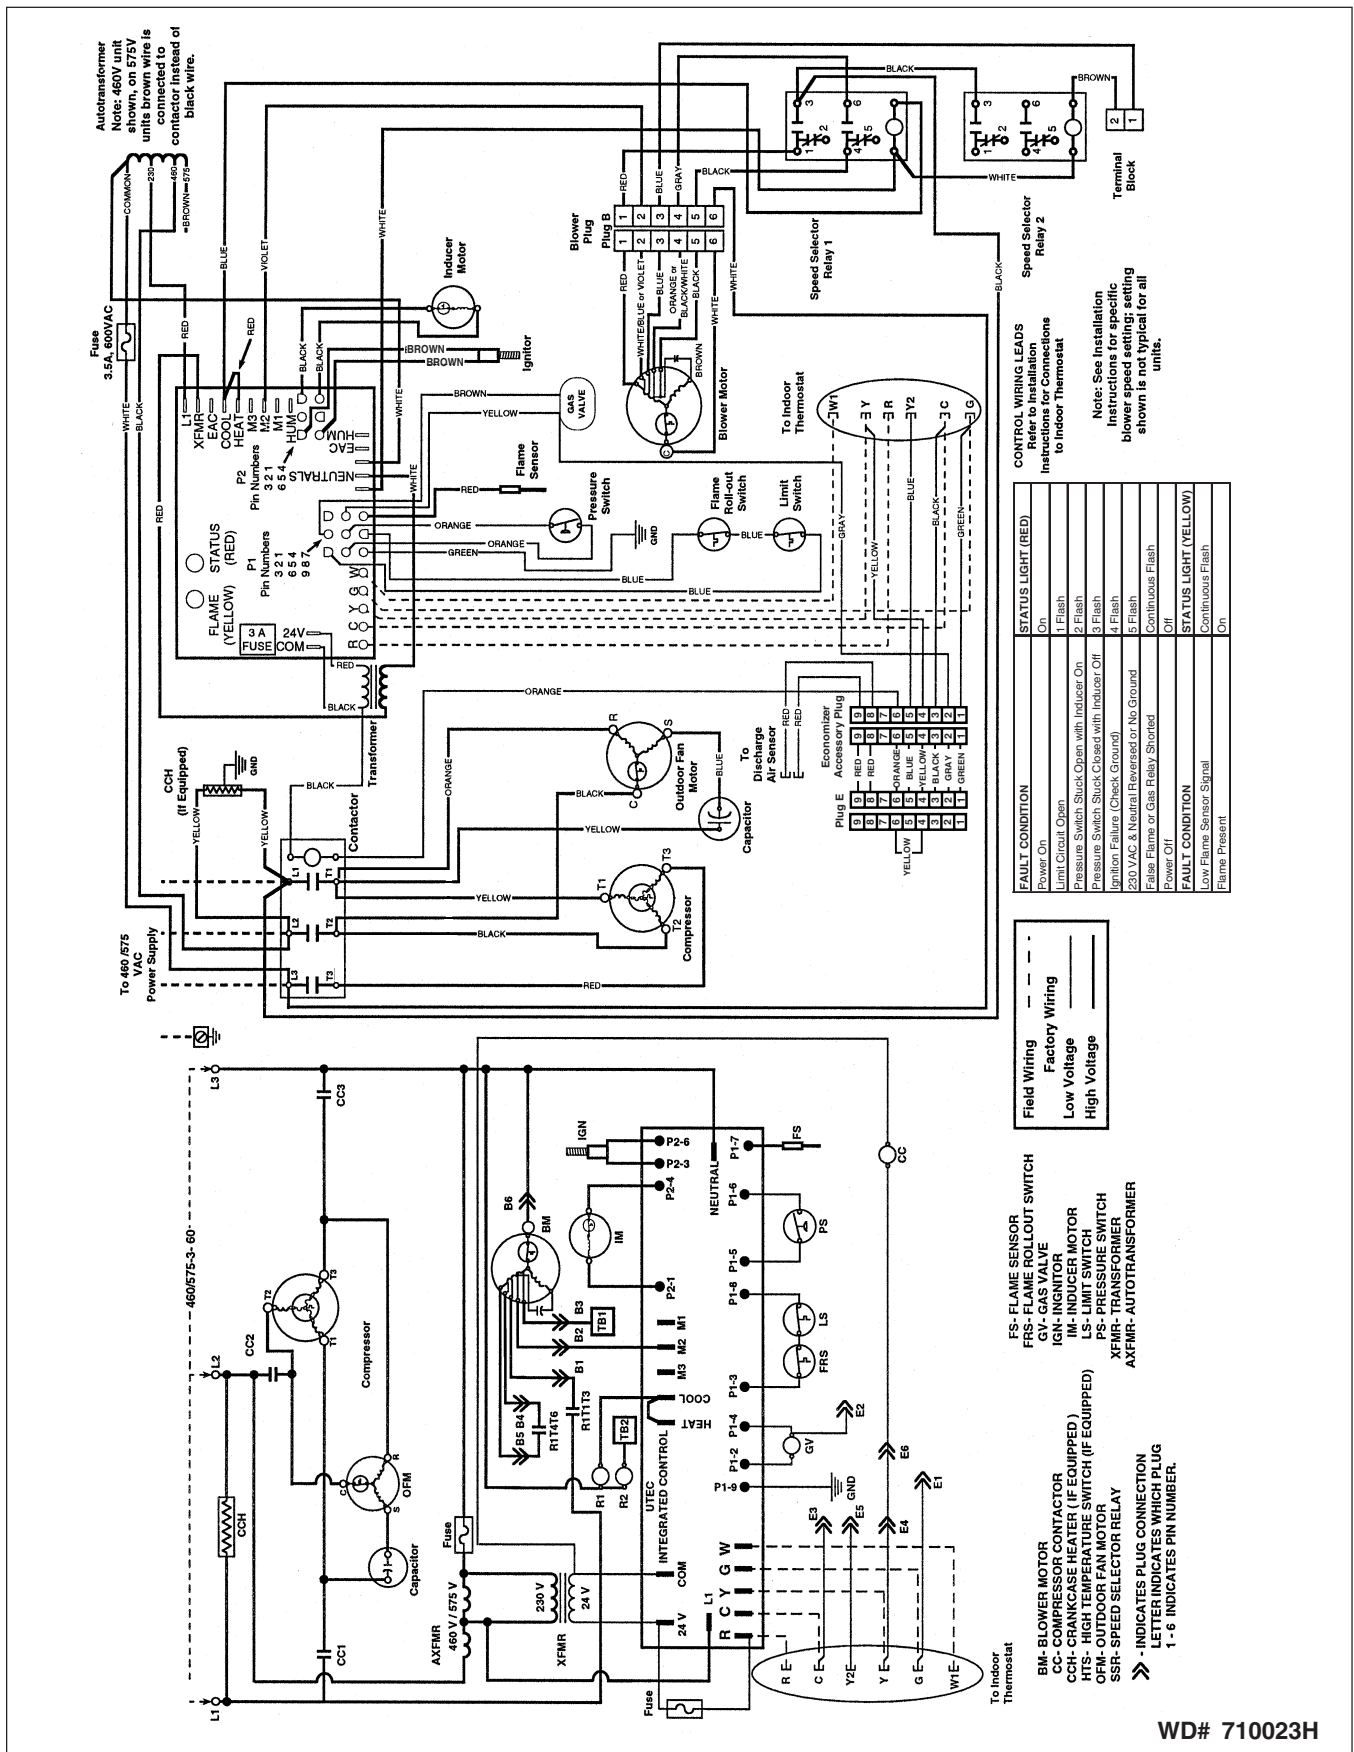

Figure 9. Three-Phase Wiring Diagram.
3. Connect the cable leads to the subbase or thermostat terminals and to the unit's low voltage connector on the unit board as shown in **Figure 9**. A system wiring diagram is also provided on the inside of the louvered